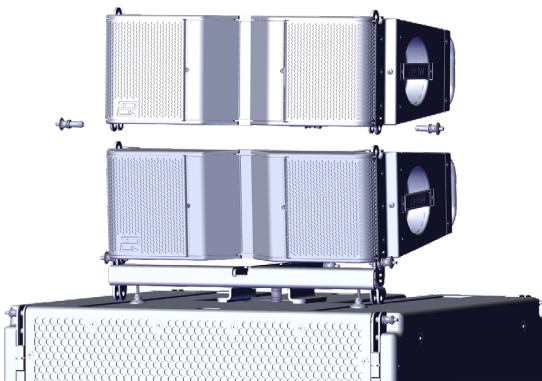

Figure 18
- Place the next module on top of the first NT206L and pin the front locations using the pins on the second cabinet (Figure 18).